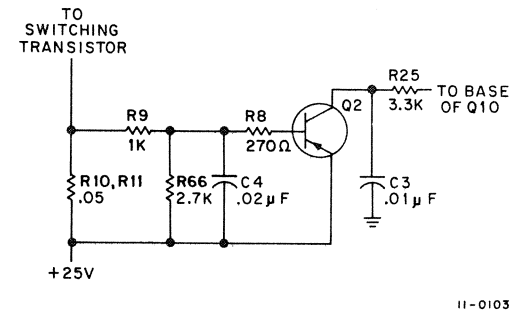

Figure 2-8 Overcurrent Protection Circuit
2.4.1.1 Overcurrent Protection — The overcurrent protection circuit schematic is shown in Figure 2-8. Transistor Q2 is usually not conducting because, under normal operating conditions, there is insufficient voltage developed across resistors R10 and R11 to forward-bias the transistor. However, if the current pulses through these resistors become too high (approximately 30A), the drop across resistor R66 becomes greater than 0.7V and base current flows in transistor Q2. When this occurs, capacitor C3 charges through Q2 to 25V immediately, and the base of Q10 is kept positive by this voltage. With Q10 conducting, the series-switching transistor is cut off, the current flow through resistors R10 and R11 stops, and transistor Q2 turns off. Capacitor C3 must then discharge through resistor R25, which process holds the switching transistor cut off for a period of time, thus providing some amount of fold-back in the current-limiting mode. Capacitor C4 provides a further delay and also prevents noise spikes from triggering transistor Q2.